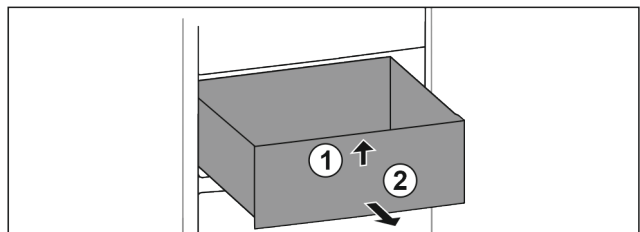

Fig. 94
- ▶ Lift up drawer at the front. Fig. 94 (1)
- ▶ Remove drawer to the front. Fig. 94 (2)